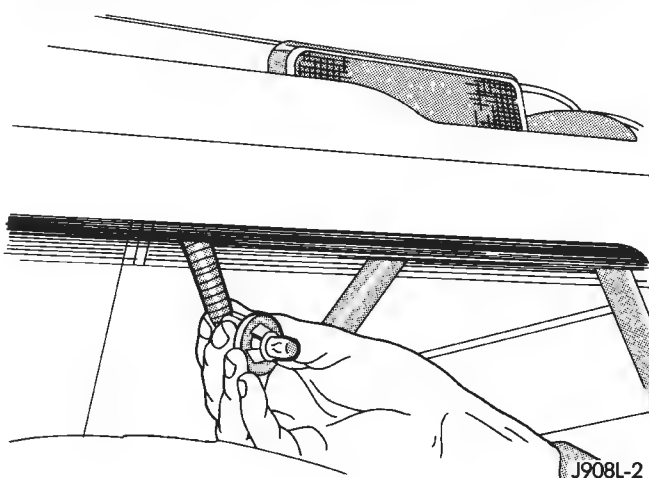

Fig. 8 Side Marker Lamp Bulb
- (1) Remove side marker bulb socket via the underside of the fender. Rotate it one-third turn and separate it from the side marker lamp housing (Fig. 8).
- (1) Install a replacement bulb in the socket.
- (2) Install the bulb and socket in the side marker lamp housing (Fig. 8).